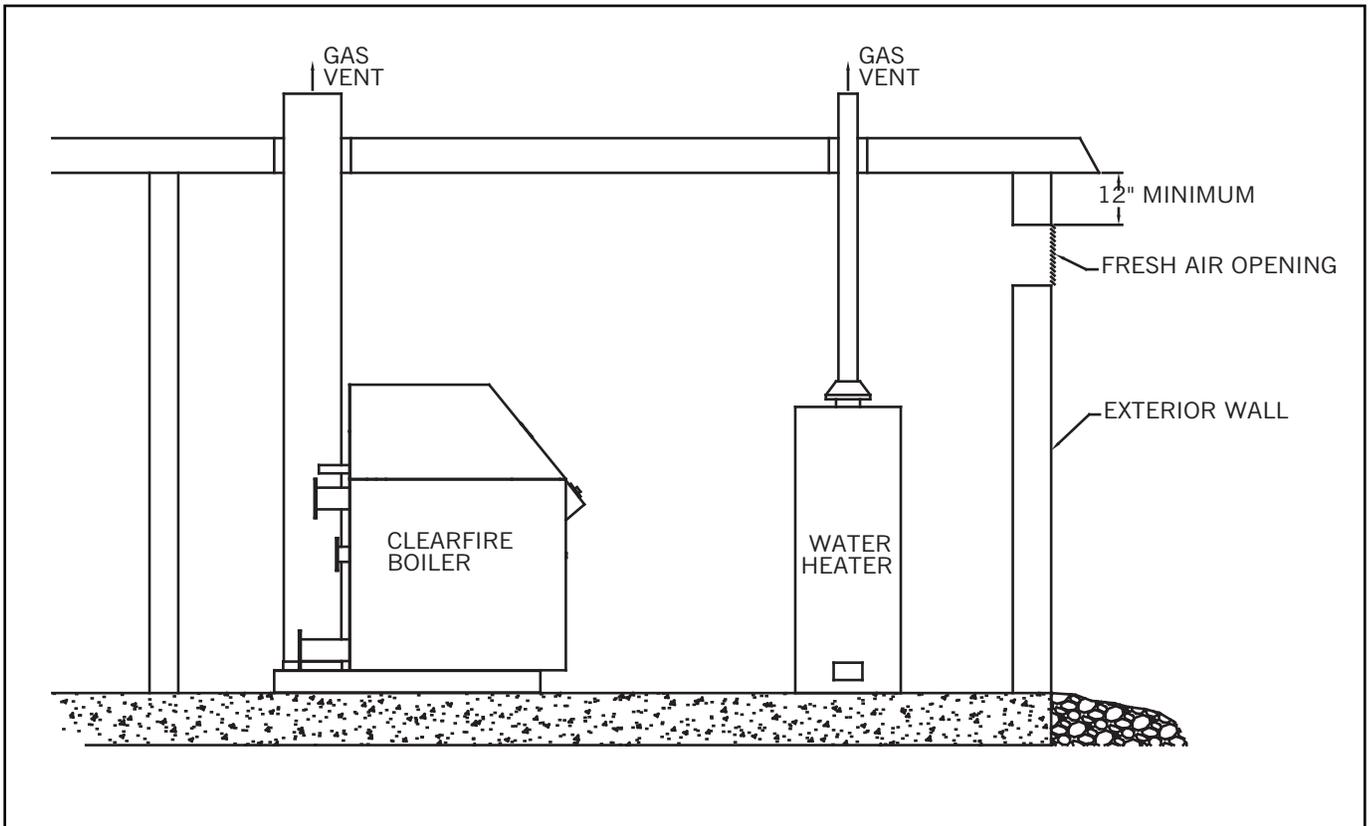

Figure 3-7. One Opening Method
- C. One Opening Method (**Figure 3-7**) - One permanent opening, commencing within 12 inches of the top of the enclosure, shall be provided.